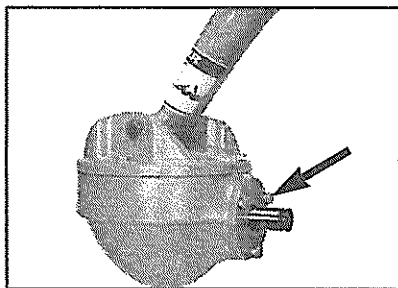

FIG. 6 - REMOVE 3 BOLTS
STEP 8: Remove the three bolts around the pinion shaft of the gearbox and discard them (see Fig. 6). Install the auger adapter shield assembly bracket (PN 6139) and secure it around the pinion shaft with the three bolts provided (PN 6059).